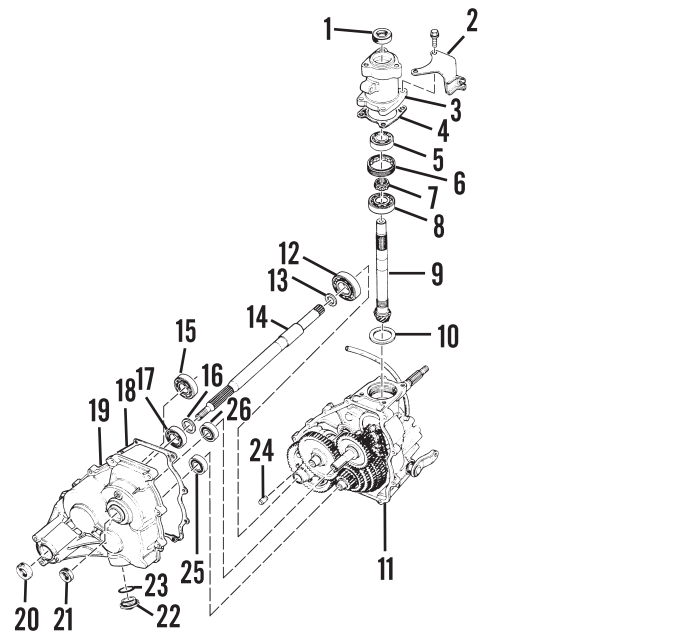
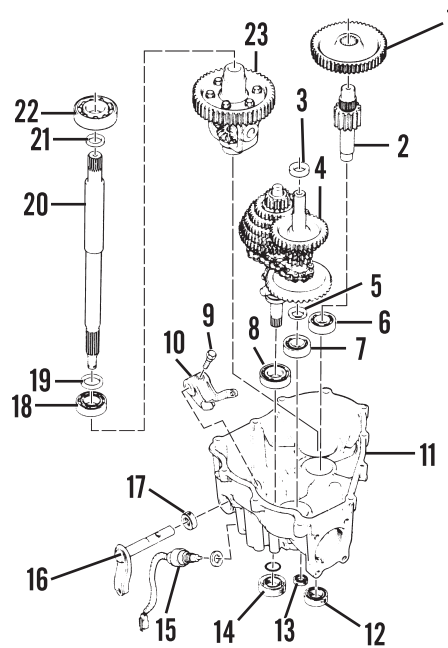
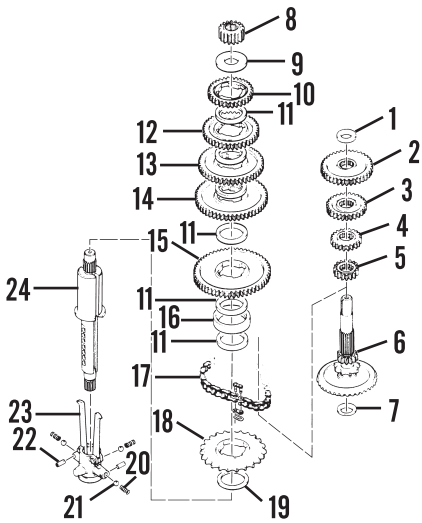

Fig. HN1-19—Exploded view of transaxle pinion shaft assembly and left axle shaft.
Fig. HN1-20—Exploded view of transaxle. Also refer to Fig. HN1-19 and HN1-21.
Fig. HN1-21—Exploded view of transaxle mainshaft and change shaft.
brake assembly. Unscrew and remove the input shaft bearing housing (3—Fig. HN1-19).
Remove the countershaft gear (1—Fig. HN1-20) and shaft (2), differential assembly (23) and mainshaft and sliding gear shaft as an assembly (4) from the right housing. Remove the setscrew (9) from the shift arm (10) and pull the shift shaft (16) out of the housing. Remove bearings and seals from the housing as needed.
Separate the gears from the mainshaft (6—Fig. HN1-21) and sliding gear shaft (24). Be careful not to lose the detent balls (21) and springs (20) when separating the gear selector (23) and sliding gear shaft (24).
When reassembling transaxle, note the following: If input shaft (9—Fig. HN1-19), input shaft bearing, bevel gear, main shaft (6—Fig. HN1-21), shims or transaxle cases were replaced, refer to the following section for the shimming procedure.
Washers (11—Fig. HN1-21) are 2 mm (0.080 in.) thick and the washer (19) is 1 mm (0.039 in.) thick. Install a Belleville washer (7) so the cup side is toward the gear (6). Install countershaft drive gear (8) so the extended hub is toward end of sliding gear shaft (24). Install the countershaft driven gear (1—Fig. HN1-20) so the extended hub is facing away from the countershaft gear teeth.
Tighten the inner pinion gear nut (7—Fig. HN1-19) to 70-80 N·m (52-58 ft.-lb.) and outer nut (6) to 90-110 N·m (67-80 ft.-lb.). During final assembly, stake the outer nut (6) into the slot in the transaxle case. Tighten the input shaft housing (3—Fig. HN1-19) cap screws to 20-24 N·m (15-17 ft.-lb.). Tighten the transaxle case cap screws to 8-14 N·m (6-10 Tighten the axle shaft-to-rear wheel nut to 550-65 N·m (40-47 ft.-lb.). Tighten the neutral switch to 16-20 N·m (12-15 ft.-lb.).
Input shaft gear and bevel gear contact pattern and backlash must be checked if the input shaft (9—Fig. HN1-19), input shaft bearing, bevel gear, gear shaft (6—Fig. HN1-21), shims or transaxle cases have been replaced or changed.
Coat the input bevel gear (9—Fig. HN1-19) with Prussian Blue or other suitable compound. Make a trial assembly by installing the input shaft assembly and the mainshaft and bevel gear assembly in the transaxle cases using the original pinion shaft shim (10—Fig. HN1-19) and mainshaft shim (1—Fig. HN1-21). Assemble the case halves.
If the contact area is toward the outer edge of tooth, install a thinner shim (10—Fig. HN1-19). If contact area is toward base of tooth, install a thicker shim (10).